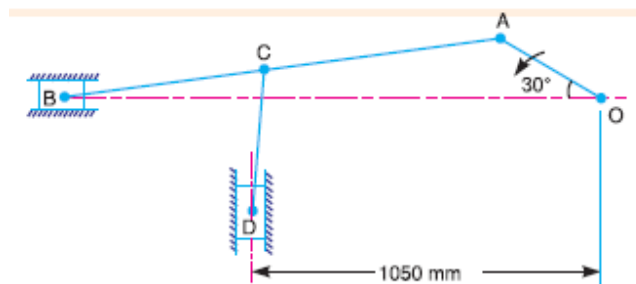

Figure 2.2
- 6) In the mechanism, as shown in Fig. 2.2, the crank OA rotates at 20 r.p.m. anticlockwise and gives motion to the sliding blocks B and D . The dimensions of the various links are $OA = 300 \text{ mm}$; $AB = 1200 \text{ mm}$; $BC = 450 \text{ mm}$ and $CD = 450 \text{ mm}$. For the given configuration, determine: 1. velocities of sliding at B and D , 2. Angular velocity of CD , 3. linear acceleration of D , and 4. angular acceleration of CD .